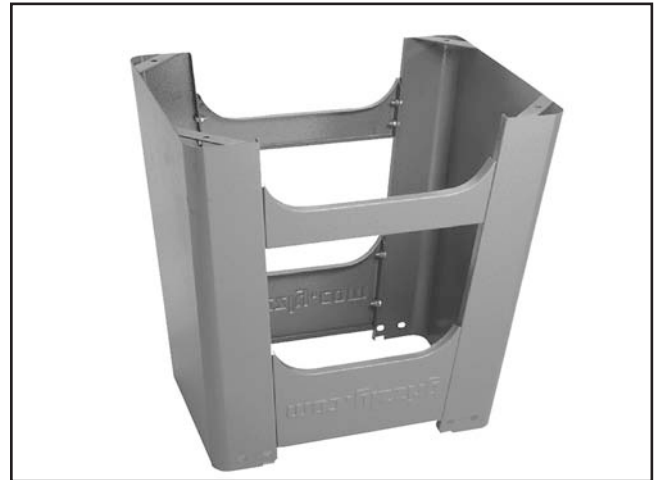

Figure 9. Second stand side attached.
2. Attach the remaining stand side to the assembly, as shown in **Figure 9**, with (8) M6-1 x 16 hex bolts, (8) 6mm flat washers, and (8) M6-1 flange nuts.